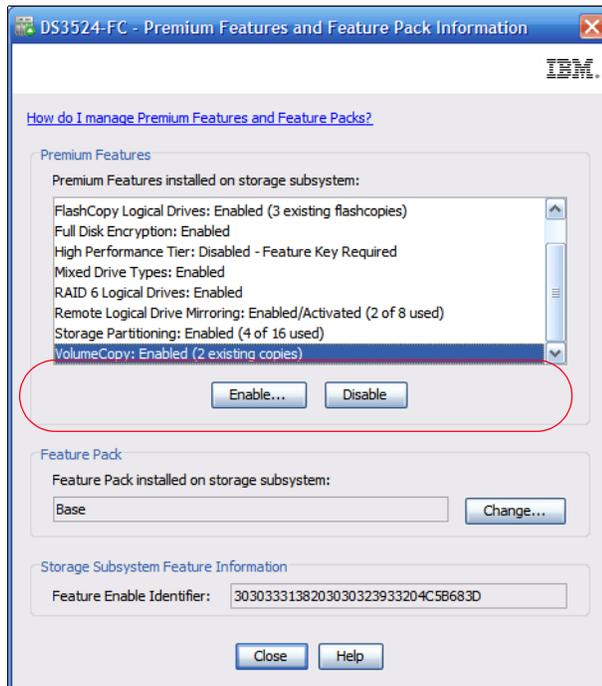

Figure 1-6 Premium features and feature pack information
1. In the DS Storage Manager (Subsystem Management) window, click the **Storage Subsystem** → **Premium Features** menu command. The **Premium Features and Feature Pack information** window shown in Figure 1-6 on page 11 opens.
2. Highlight the premium feature to be disabled, and click **Disable**, as shown in Figure 1-6.